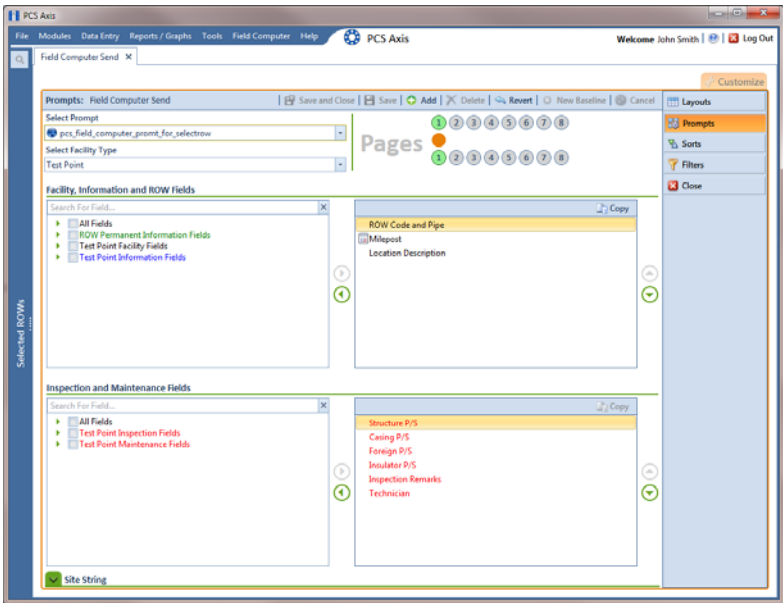

Figure 8-31. Prompts
- 4 Click the **Customize** tab , then the **Prompts** button  to open the *Prompts* page (Figure 8-31).